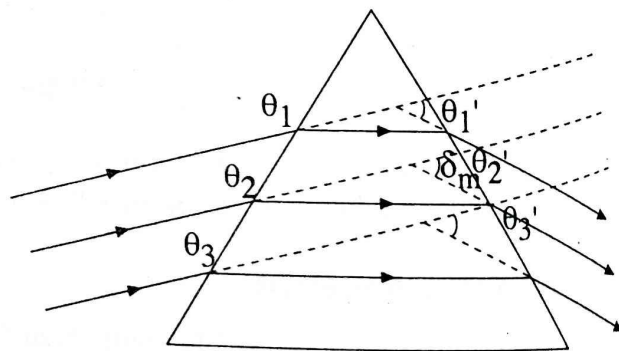

Fig. 10.12
- (iii) Another sheet of paper is fixed on the drawing board. The outline of the prism is drawn. The outline is cut symmetry at positions Q_1, Q_2 and Q_3 and Q'_1, Q'_2, Q'_3 as shown in fig. 10.12 by means of a compass.